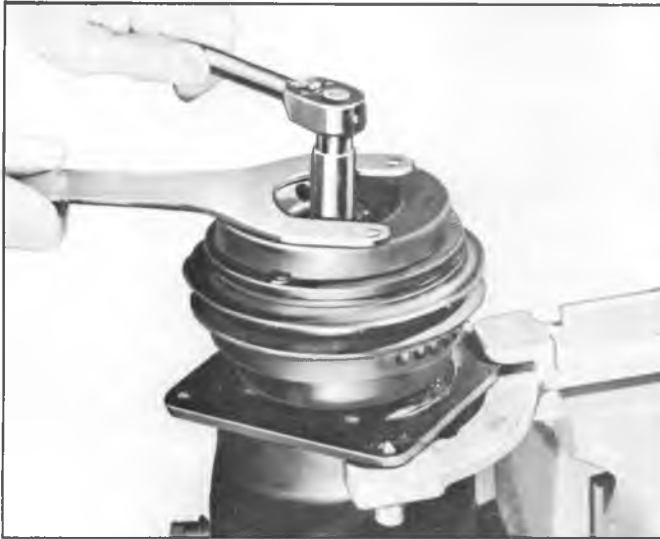

Fig. 2—Removing Shaft Locknut
2. Using Clutch Hub Holding Tool J-9403 and Socket J-9399, remove the locknut from the shaft (fig. 2). Discard locknut.